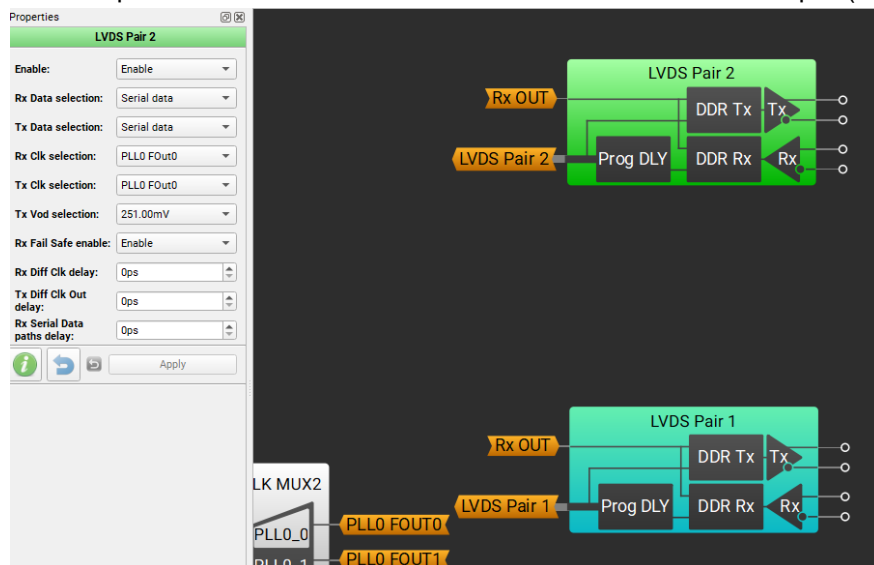

Figure 6. LVDS Properties
9. In the Forge Workshop main window, click on LVDS Pair 1 and enable it from the properties panel on the left. Follow the same steps for LVDS Pair 2. Ensure that the same is done on Setup B (see Figure 6).